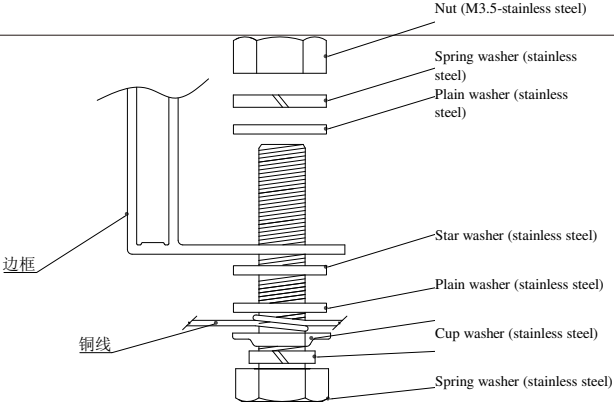

Figure 7
- Grounding bolts must be made of stainless steel and used on designated grounding holes. First insert the M3.5 stainless steel bolts through spring washer, flat washer, cup washer (2.1 mm diameter copper wire), star washer, then through the ground hole of the frame, flat washer, spring washer, and finally tighten with M3.5 nuts, please note: The upper limit of conductor temperature is 85 °C, and the installation is shown in Figure 7.